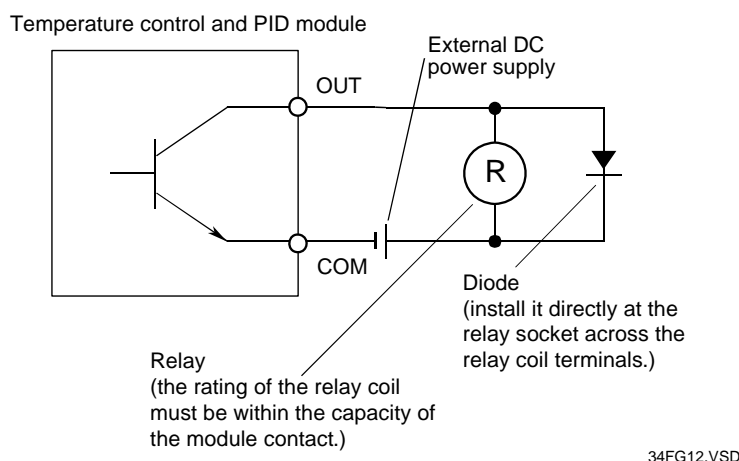

Figure A4.6 Surge Suppressor
- (5) If you have an open collector driving an auxiliary relay or other inductive load, install a diode close to and parallel to the load to eliminate sparks, as shown in Figure A4.6.